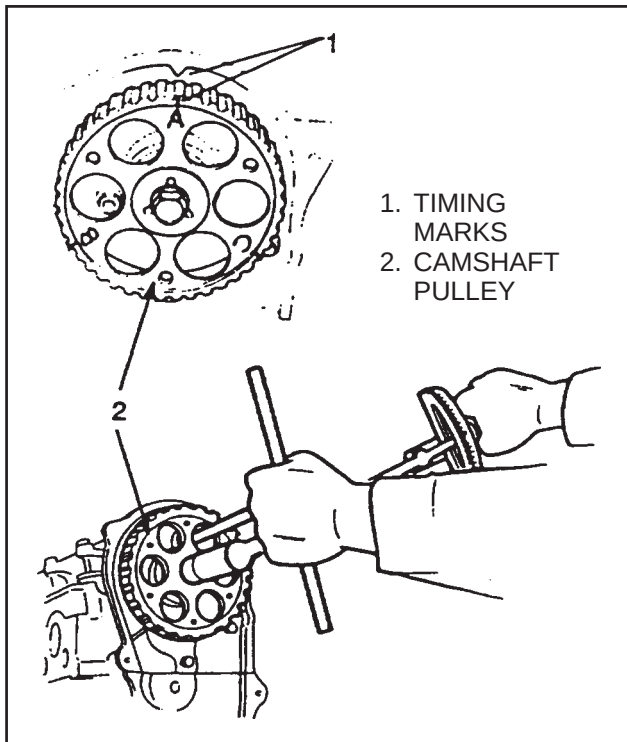

FIGURE 23. INSTALL THE CAMSHAFT PULLEY
9. With the dowel pin at the top of the camshaft, install the camshaft pulley. Check that the letter “A” for FE or the letter “1” for F2 on the pulley is aligned with the timing mark on the front housing. See FIGURE 23.
10. Install the cap screw and washer for the camshaft pulley. See FIGURE 23. Keep the pulley from turning and tighten the cap screw to 47 to 65 N.m (480 to 660 kgf·cm).